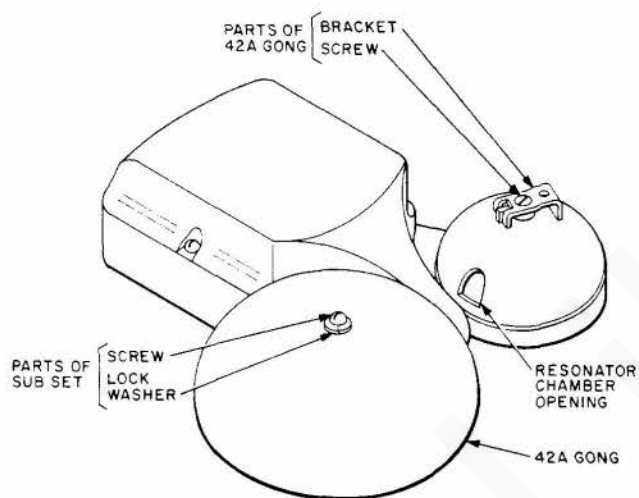

Fig. 5—Method of Assembling 42A Gong to 592-Type (MD) Subscriber Set
2.10 The 592-type (MD) subscriber set is normally equipped with 26B (MD) 3-inch gongs. When a louder signal is desired, 42A 4-inch gongs may be used. The 42A gongs are mounted on the set by means of extension brackets, (furnished with gongs) as shown in Fig. 5.